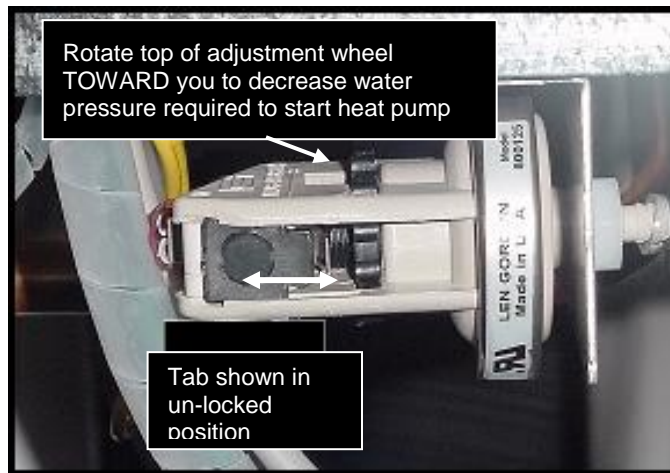

Figure 13
- Identify type of switch to adjust ("Len Gordon" or "TecMark"). To determine which brand pressure switch is installed see Figure 13 and Figure 14. Follow the adjustment procedure for the appropriate switch.
- 1) Locate black rectangular plastic tab, located on forward-facing side of the switch. See Figure 13. The black rectangle is a wheel lock tab.